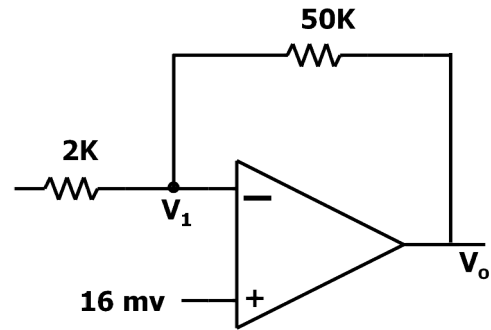

Fig 5.12
**Problem 4:** For the circuit in fig 5.12,  $V_0 = ?$  Gain = ?